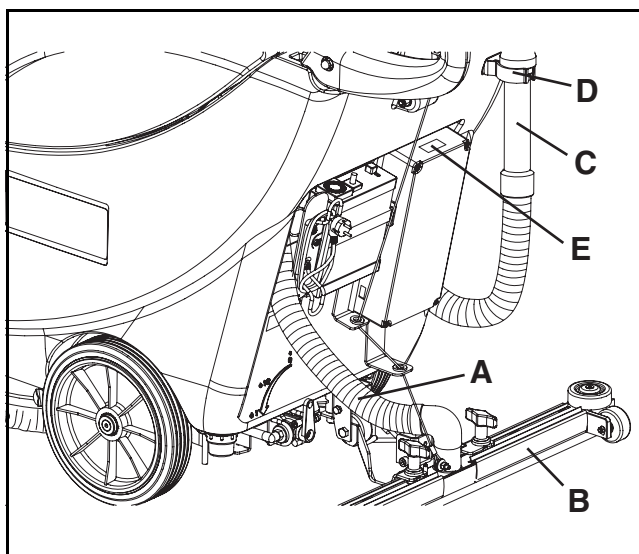

Figure 8
5. Disconnect the vacuum hose (A, Fig. 8) from the squeegee (B).
6. Disconnect the recovery tank drain hose (C, Fig. 8) from the bracket (D).
9. Install the batteries on the machine according to the diagram (E, Fig. 8).